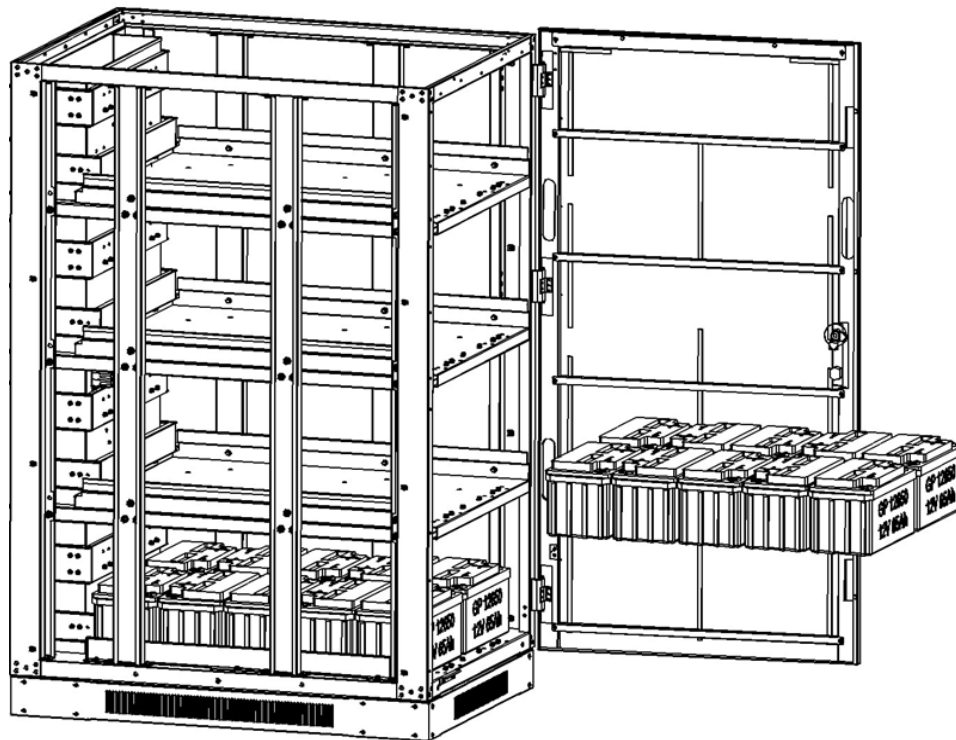
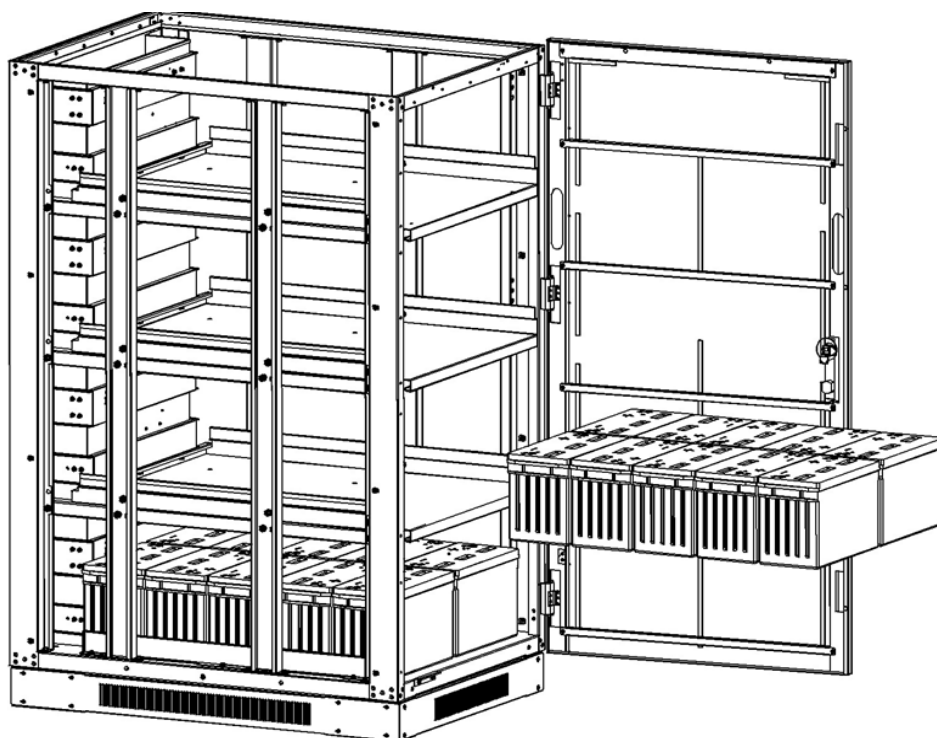

Figure 5-33: Model BP240V65L-NIB
Figure 5-34: Model BP240V100L-NIB
5. Install 10 battery packs in layer 2 (Figure 5-33: Model BP240V65L-NIB or Figure 5-34: Model BP240V100L-NIB).